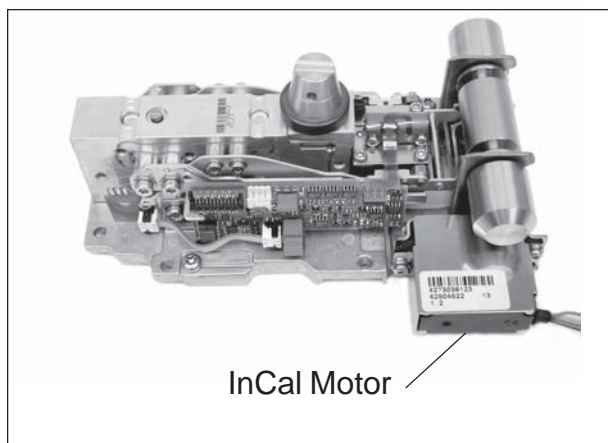

Figure 3-24. InCal Motor Location.
3. Refer to Figure 3-24 for InCal Motor location.
2. See Figure 3-24 and slide the InCal Mechanism to the right to remove